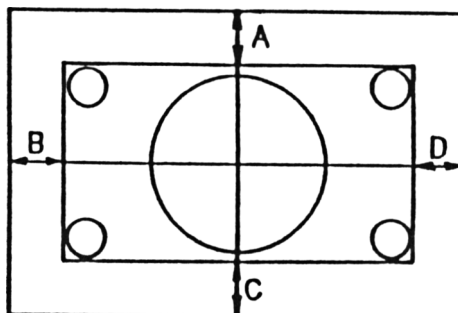

Figure 1
2. Adjust the VR408 and VR 403 so that the B.D and A.C become $12 \text{ mm} \pm 3 \text{ mm}$ each other. (Refer to Fig. 1)
4. Adjust the VR406 and VR402 so that the B.D and A.C become $12 \text{ mm} \pm 3 \text{ mm}$ each other. (Refer to Fig. 1)
4. Adjust the voltage level of waveform A point to one of waveform B point with VR103. (Refer to Fig. 1)
5. Adjust the voltage level of waveform C point to 4.5 V with VR105. (Refer to Fig. 1)